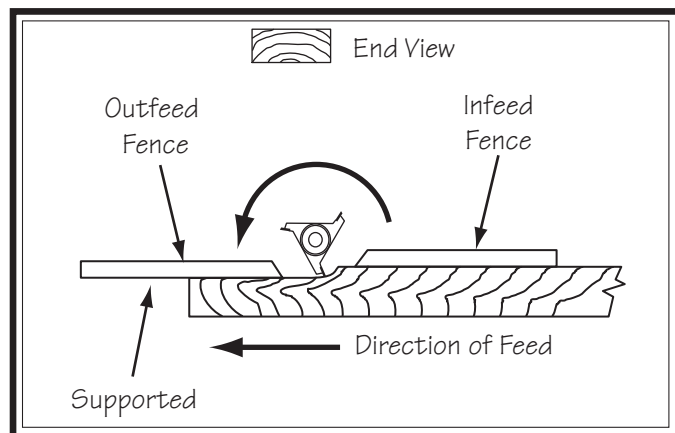

Figure 49. Support workpiece as it is fed through cut.
9. When cutter comes to complete stop, adjust outfeed fence using technique used in Steps 2–4 to support new profiled edge (see Figure 49).